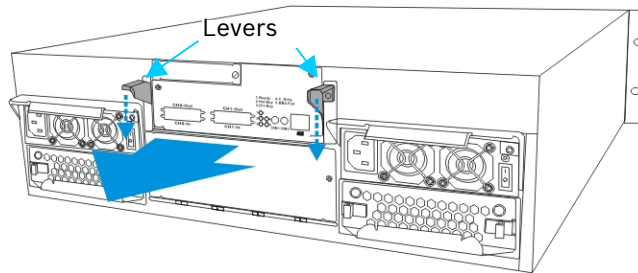

Fig. 6.2 Removing the Controller Module
5. Remove the controller module. Once all the cables have been disconnected, press down the two (2) levers at the back of the controller module. The controller module will automatically be eased out of the controller module bay. Gently pull the controller module out of the subsystem. (See *Figure 6.2*)